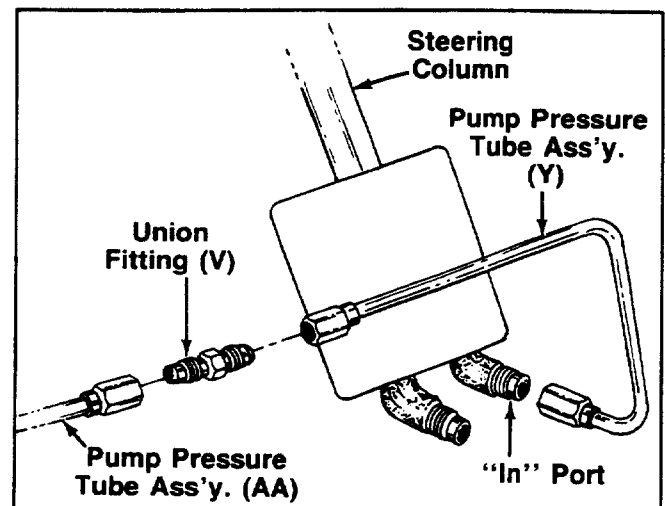

FIGURE 23.
16. Assemble the (short end) pump pressure tube assembly (Y) to the 90° elbow on the "In" port on the bottom of the steering column loosely. **Do not tighten at this time.** See figure 23.
17. Assemble the other end of pump pressure tube assembly (Y) to the union fitting (V) and tighten. See figure 23.